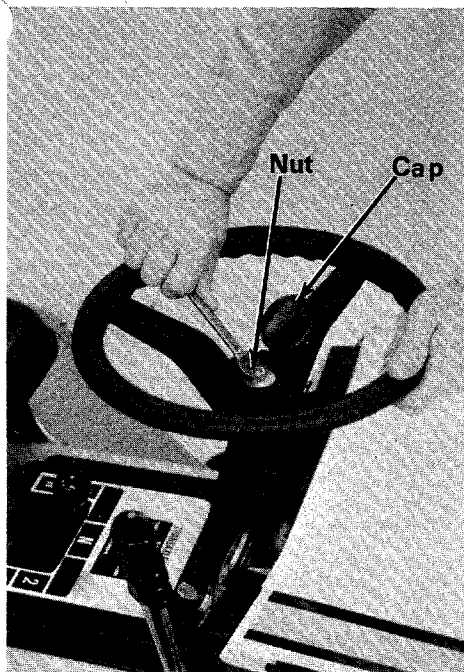

Figure 1
- 1 Place the steering wheel over the steering column extending through the dash. Line up the flats on the steering column with the flats in the steering wheel. (See figure 1.)
- 1 Hook the carriage bolt into the slot in the bottom of the seat. See Figure 1.